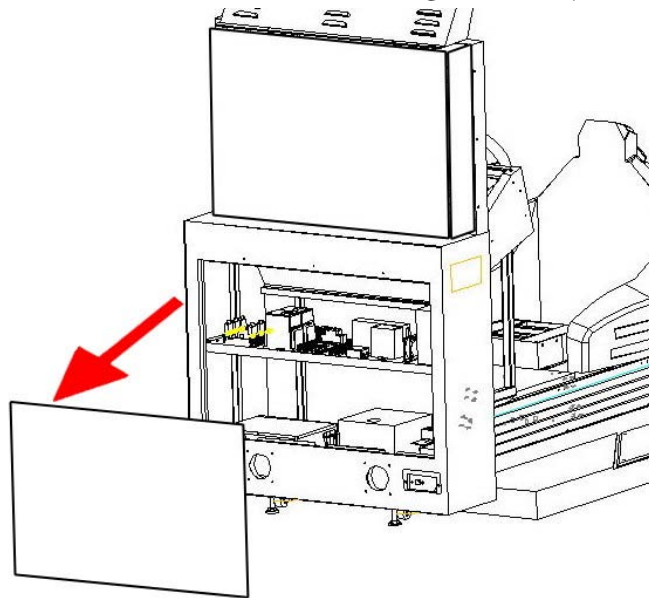

Figure 4-16 Remove the case
1. Unfasten the screws (arrows as shown in the Figure 4-15), and then remove the case (Figure 4-16).